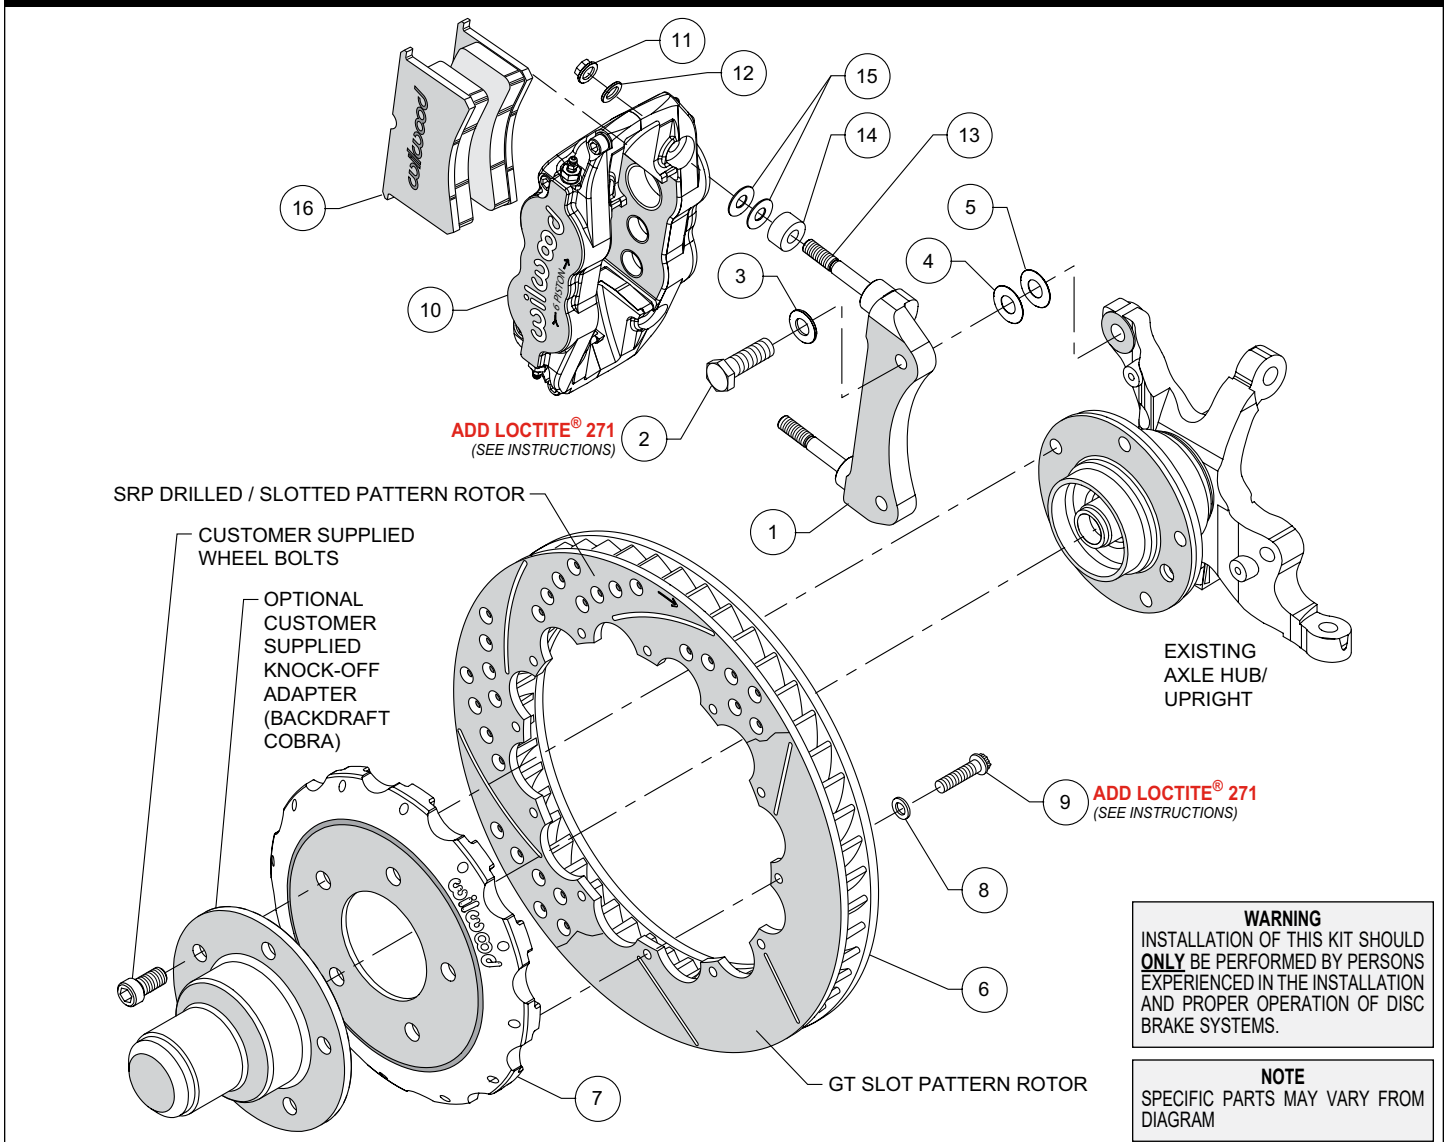
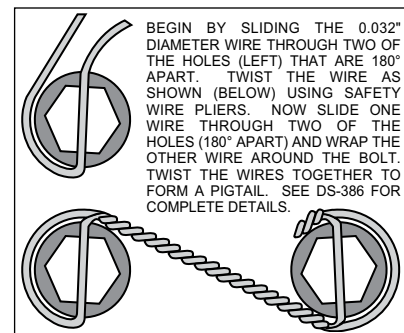

Figure 1. Typical Installation Configuration
Figure 3. Safety Wire Diagram
Assembly Instructions (numbers in parenthesis refer to the parts list and Figure 1 on the preceding pages):
- The caliper mount bracket assembly (1) should initially be installed with clean, dry threads on the mounting bolts. Orient the bracket as shown in Figure 1 and install using mount bolts (2) and washers (3). Initially place one each .033" thick shim (4), and .015" thick shim (5) on each bolt between the bracket and upright, Figure 1. Temporarily tighten the mounting bolts. **NOTE: The bracket must fit squarely against the mount bosses on the backside of the upright.** Inspect for interference from casting irregularities, machining ridges, burrs, etc. Later, after the caliper alignment has been checked, the mount bolts will be secured using *Loctite*[®].
- Orient the rotor (6) and the hat (7) as shown in Figure 1. Attach rotor to hat using bolts (9) and washers (8). Apply red *Loctite*[®] 271 to the bolt threads and torque to 155 in-lb using a criss-cross pattern. For an added measure of security, the bolts may be safety wired using standard 0.032 inch diameter stainless steel safety wire as shown in Figure 3. Please refer to Wilwood's data sheet DS-386 (available at www.wilwood.com/Pdf/DataSheets/ds386.pdf) for complete safety wire installation instructions.
- Slide the hat/rotor assembly (6/7) onto the axle hub. **NOTE: The hat must fit flush against the axle hub or excessive rotor run out may result.** Install the optional customer furnished knock-off over the hat/rotor assembly as shown in Figure 1. Install three customer supplied wheel bolts (finger tight) to keep the hat/rotor and knock-off assembly in place while continuing with the installation.
- **NOTE: This kit contains distinct right and left hand calipers that must be mounted in a specific direction, as described below.** Slide spacer (14) and two .035" thick shims (15) on each stud between the caliper and the bracket, as shown in Figure 1. Mount the caliper (10) onto the bracket (1) using lock nuts (11) and washers (12), Figure 1. Temporarily tighten the lock nuts. Ensure that the caliper is mounted so the largest pistons are at the rotor exit end of the caliper, in relation to the direction of the rotor. View the rotor (6) through the top opening of the caliper. The rotor should be centered in the caliper. If not, adjust by adding or subtracting shims (4 and/or 5) between the bracket and the upright. Always use the same amount of shims on each of the two mounting bolts. Once the caliper alignment is correct, remove the bracket mounting bolts one at a time, apply red *Loctite*[®] 271 to the threads, and torque to 65 ft-lb.
- Remove the caliper center bridge pad retainer bolt, nut, and tube from the caliper. Insert the brake pads (16) into the caliper, with the friction material facing the rotor, Figure 1. Check that the top of the brake pad is flush with the outside diameter of the rotor. If not, adjust by adding or subtracting shims (15) between the caliper and the bracket. After the caliper pad height is set, torque the caliper lock nuts (11) to 28 ft-lb. Secure the brake pads in place with the center bridge pad retainer tube, bolt, and lock nut. The locknut should be snug without play in the bolt or tube. Be cautious not to over tighten.